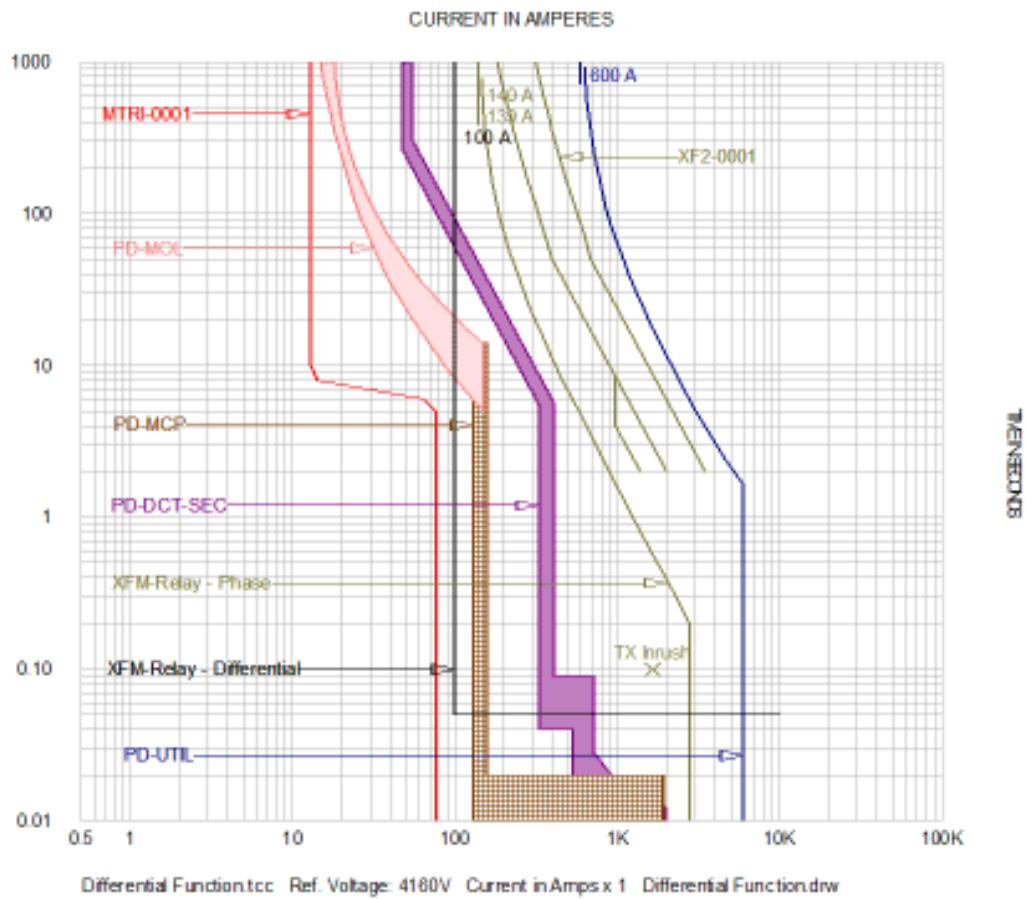

Figure 9
- Note that the function names (Phase or Differential) are now added at the end of the XFM-Relay device name (Figure 9).